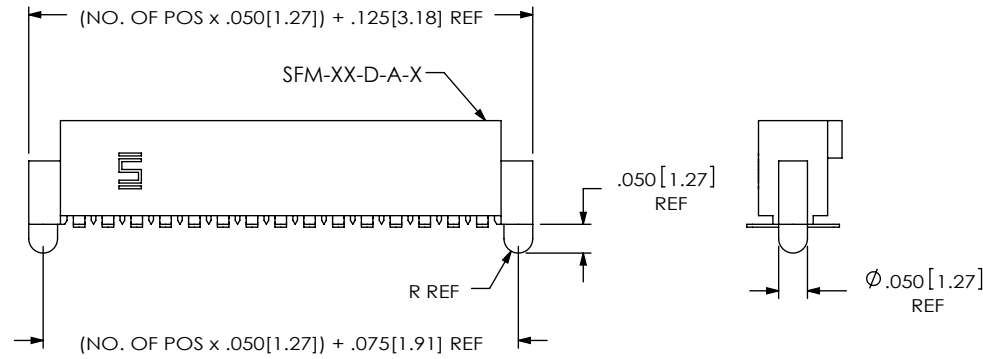

FIG 4
- A: ALIGNMENT PIN (USE SFM-XX-D-A-X) (SEE FIG 4, SHT 2)